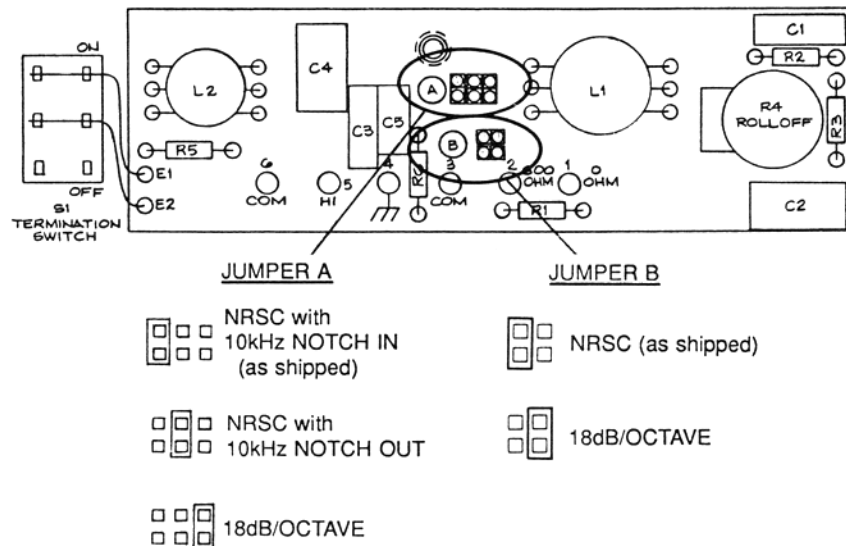

Figure 2-4: Jumper Positions, Monitor Roll-Off Filter
B) Change the jumpers to the desired rolloff. See Figure 2-4.